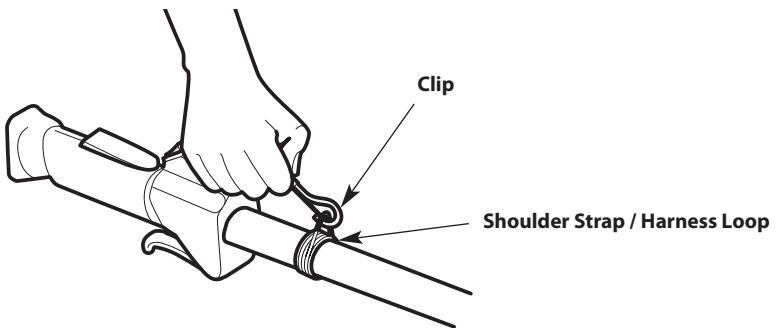

Fig. 7
3. Snap the clip onto the shoulder strap / harness loop (Fig. 7).